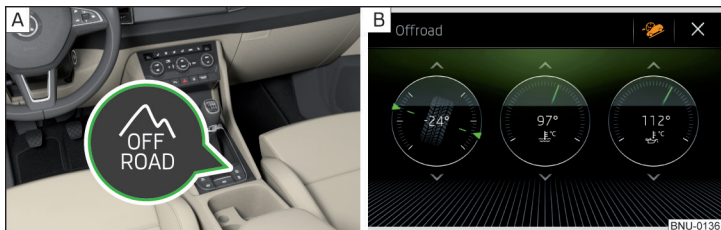

Fig. 259 Offroad button / Infotainment screen: Display with automatic activation
► To **activate/deactivate** press the button » Fig. 259 - [A].
During **activation** the warning light for Offroad mode in the instrument cluster and for the Hill Descent Assistant **illuminate**. In the Infotainment screen display, the Offroad mode indication is displayed » Fig. 259 - [B].